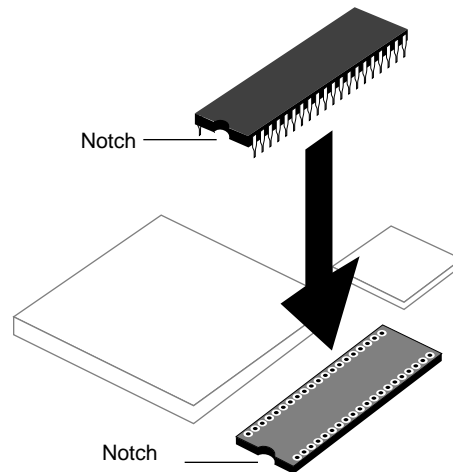

Figure 3 Lining Up the PROM Chip
- Grasp the new PROM chip. Orient it above the socket on the system board so the end with the semicircular notch lines up with the notch in the socket. (See Figure 3.)